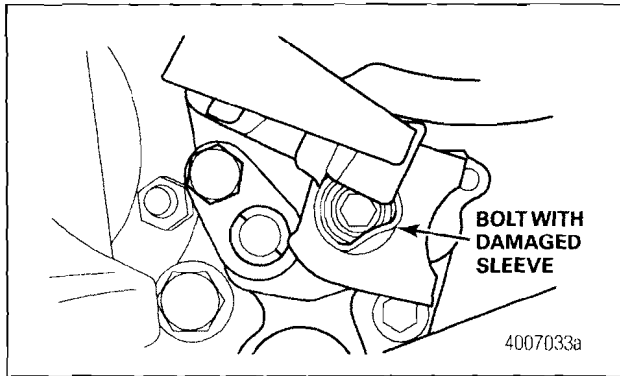

Figure 5
6. Inspect the adjusting bolt and sleeves for damage and for the presence of the protective rubber cap. Figure 5.
7. If the adjusting bolt or sleeves are damaged, replace the caliper. See Remove the Caliper Assembly in this bulletin. Figure 5.